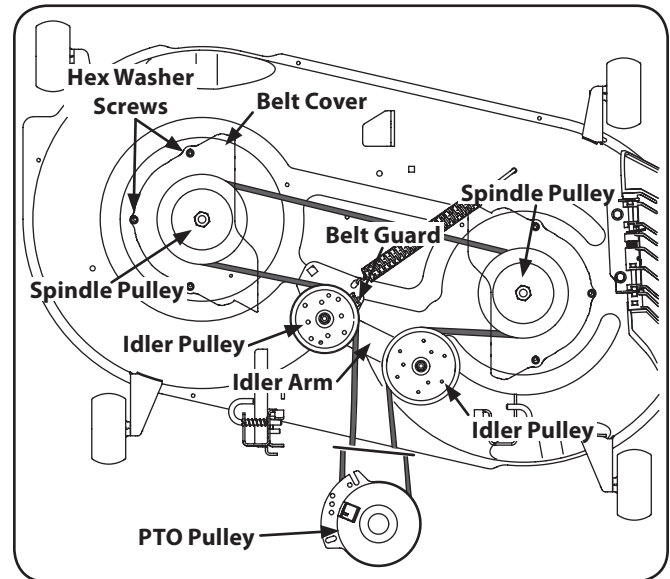

Figure 7-10
3. Remove the two idler pulleys by removing the hex screws and flange lock nuts that secure them to the deck and the idler arm. See Figure 7-10. Do not lose any of the hardware when removing the hex screw and flange lock nut.
- Place the belt around the idler pulleys removed in step 3 with the "V" side facing in. Once in place, reinstall all the hardware and tighten the flange lock nut to secure the assembly. See Figure 7-10.
- Route the belt as shown in Figure 7-10 and then reinstall the deck (refer to Deck Installation on page 30).